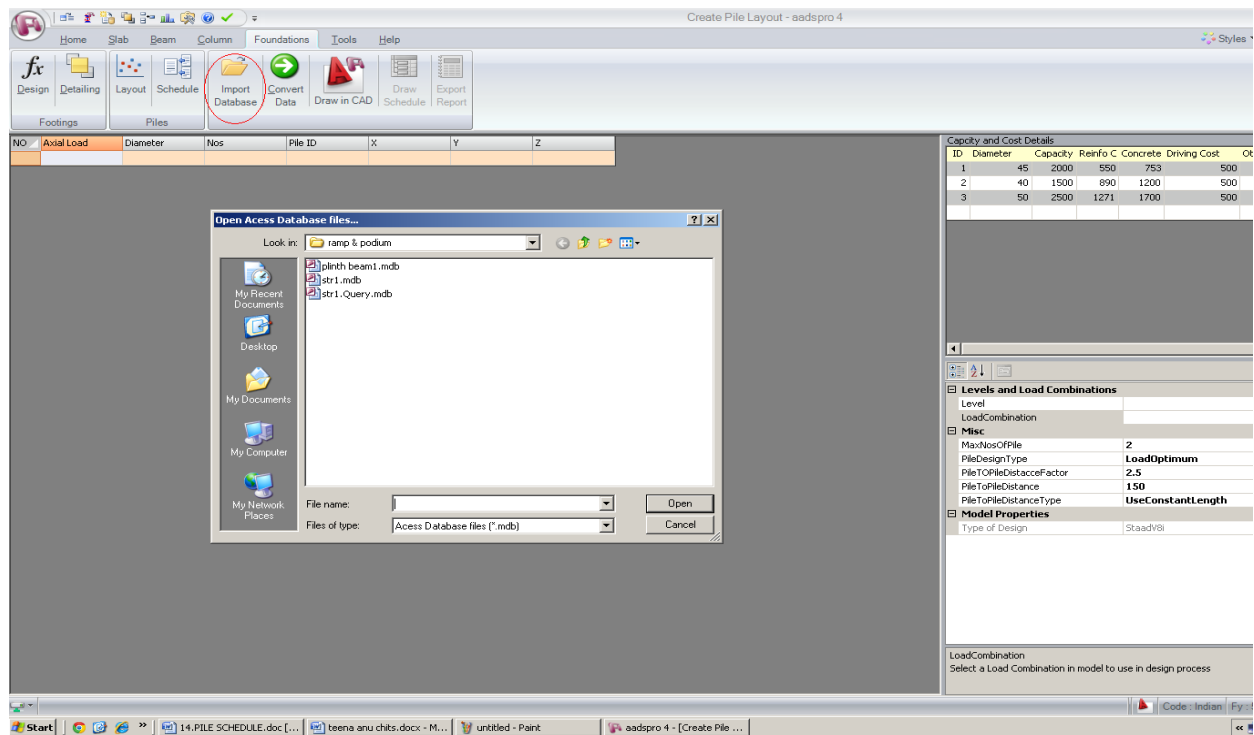

Fig 5.1.4
- Click on the Import Database from tool bar (fig 5.1.4)